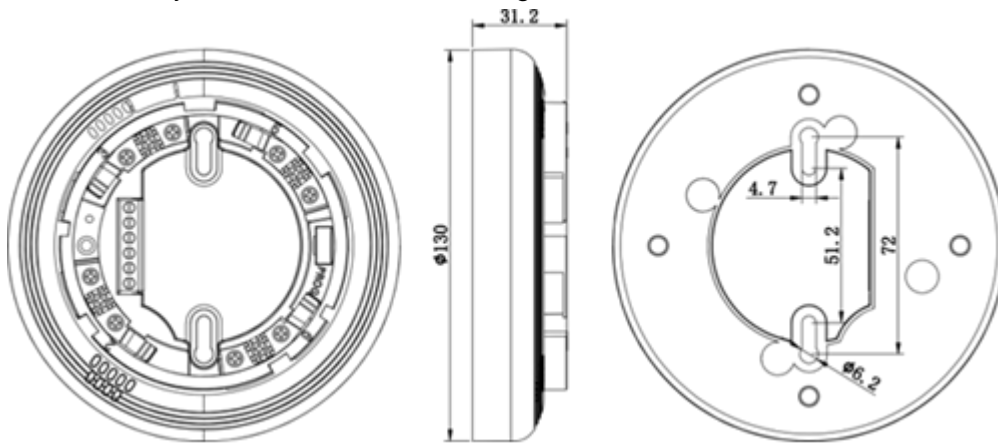

Fig. 1 Main part
1. Main Body of a AW-D115 shown in Fig.1.
1. Use two screws to fix the isolator base via the two elliptic screw holes shown in Fig.1, and then insert the detector into the isolator base.